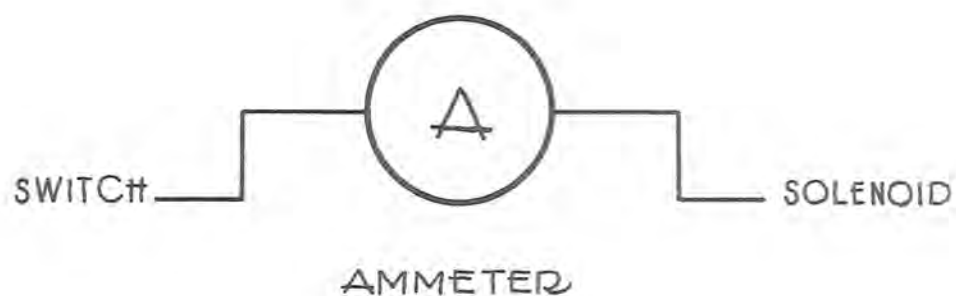

Figure 6-2. Ammeter Connection
2. Ampere Gauge - (See figure 6-2) The ammeter is to be connected into the line between the ignition switch and the solenoid. Disconnect this wire after mounting the Ampere gauge in the dash, and wire as shown in this figure.